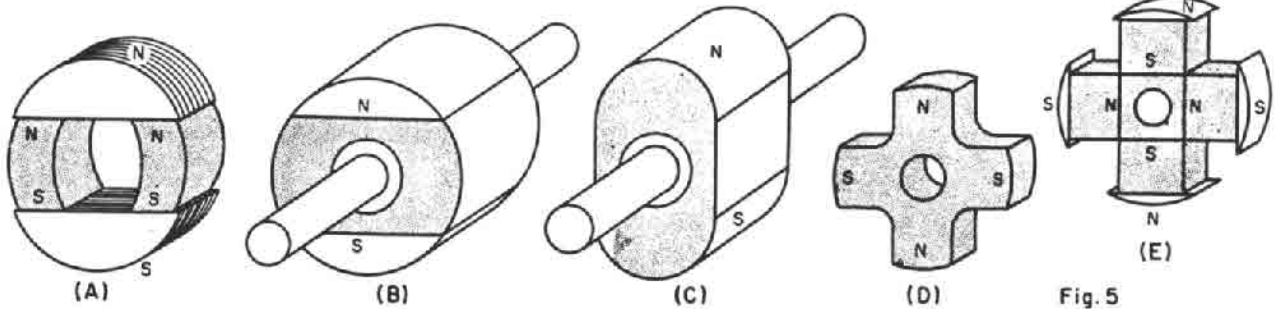

Fig. 5
**Fig. 5** Magnets for generators and other machines can be assembled from multiple magnets with laminated (A) or solid pole pieces (E), cast with inserts for pressing in shafts, nonsalient (B) or salient (C) or cast for assembly on shafts (D).